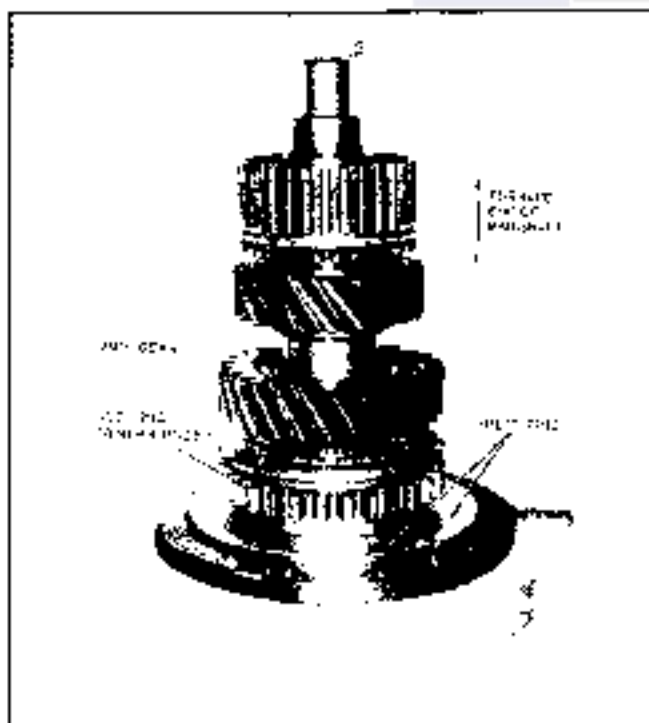

Fig. 7C-14 Installing 1st and 2nd Synchronizer and Second Gear
7. With fork slot downward, press 1st and 2nd synchronizer assemblies into splines on mainshaft (Fig. 7C-14)
8. Install 1st and 2nd synchronizer snap ring (Fig. 7C-4).